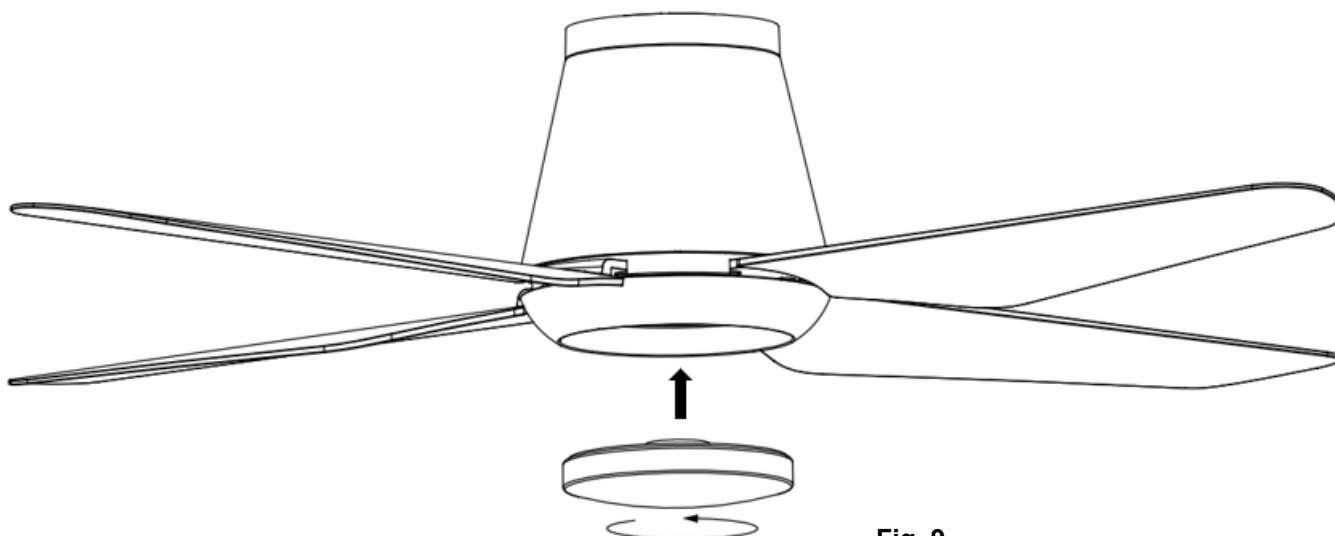

Fig. 9
INSTALLATION OF LAMP (Fig. 9)
- Install the lamp on the fan assembly then secure it by turning clockwise. (Fig. 9)